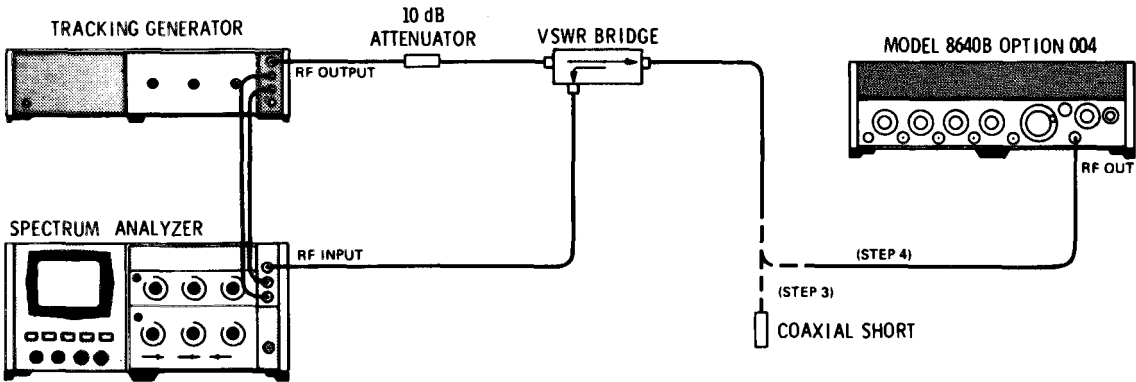

Figure 4-14. Output Impedance Test (Broadband)
1. Connect equipment as shown in Figure 4-14 after setting Signal Generator's controls as follows: